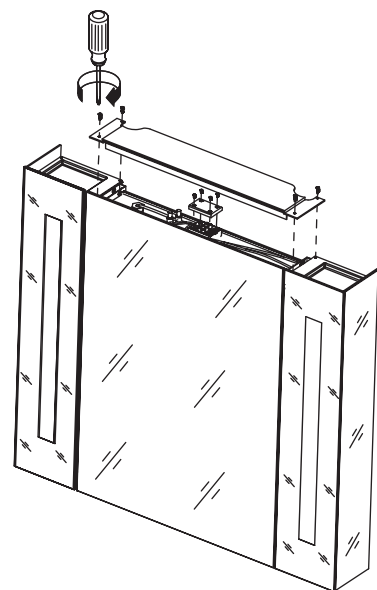

Fig.7/ รูปที่ 7
2. Cap the junction box, arrange the wire and then cap the grey decorative lid, see Fig.7.